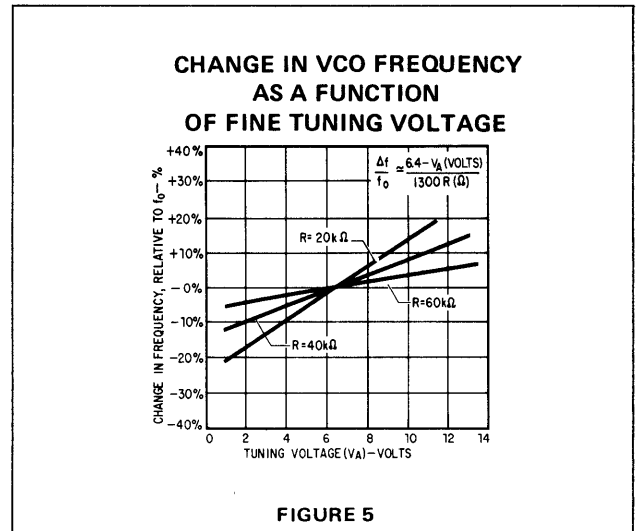

FIGURE 5
The percent change in the VCO free-running frequency,  $f_0$ , as a function of the voltage applied to point (A) is shown in the curves of Figure 5. Note that with this fine tuning technique, it is possible to *increase* the VCO free-running frequency to a value greater than possible with just a trimmer capacitor alone. A formula for the approximation of the VCO frequency as a function of the voltage at point (A), the resistance values and the starting frequency, is given below: